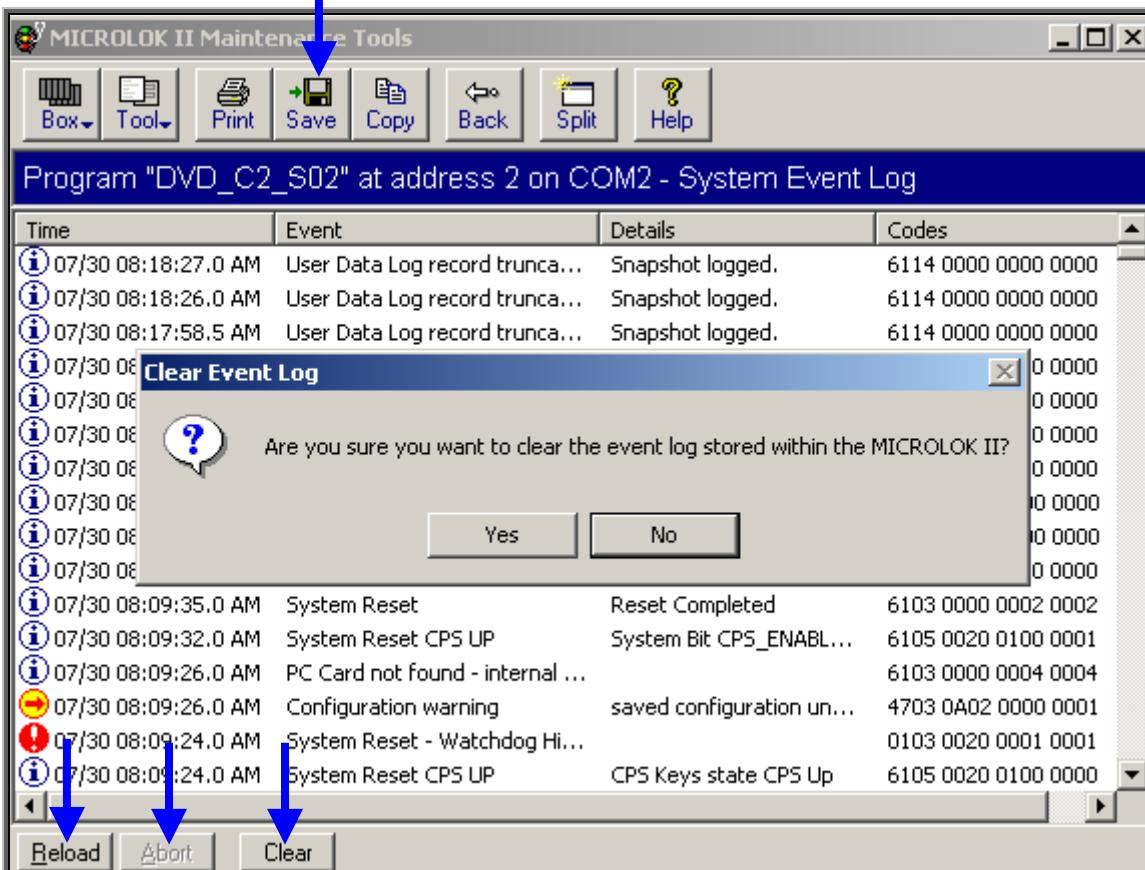

Figure-5.6.3.4
- ❖ An example of the confirmation box is shown in Figure-5.6.3.4.